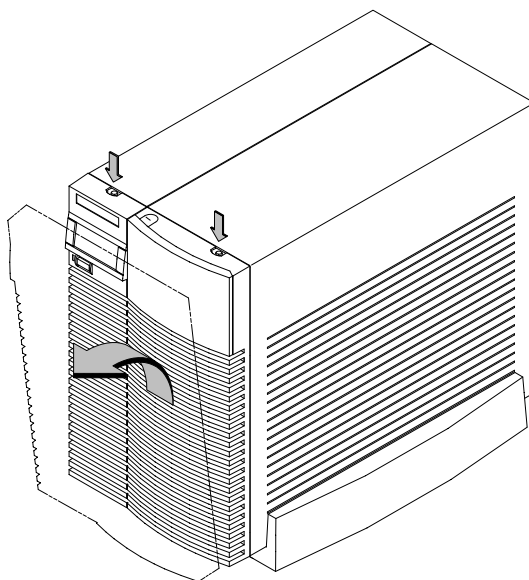

Figure 1. Removing the Front Bezel
2. Release the front bezel by pushing in the two locking tabs at the front of the system unit as shown in Figure 1.